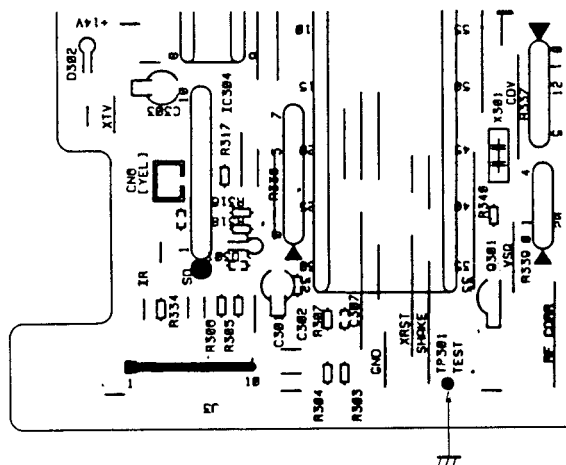

Fig. 8-1
2. Using an alligator clip, etc., short-circuit TP301 and GND on the ASCB assembly (refer to Fig. 8-1).